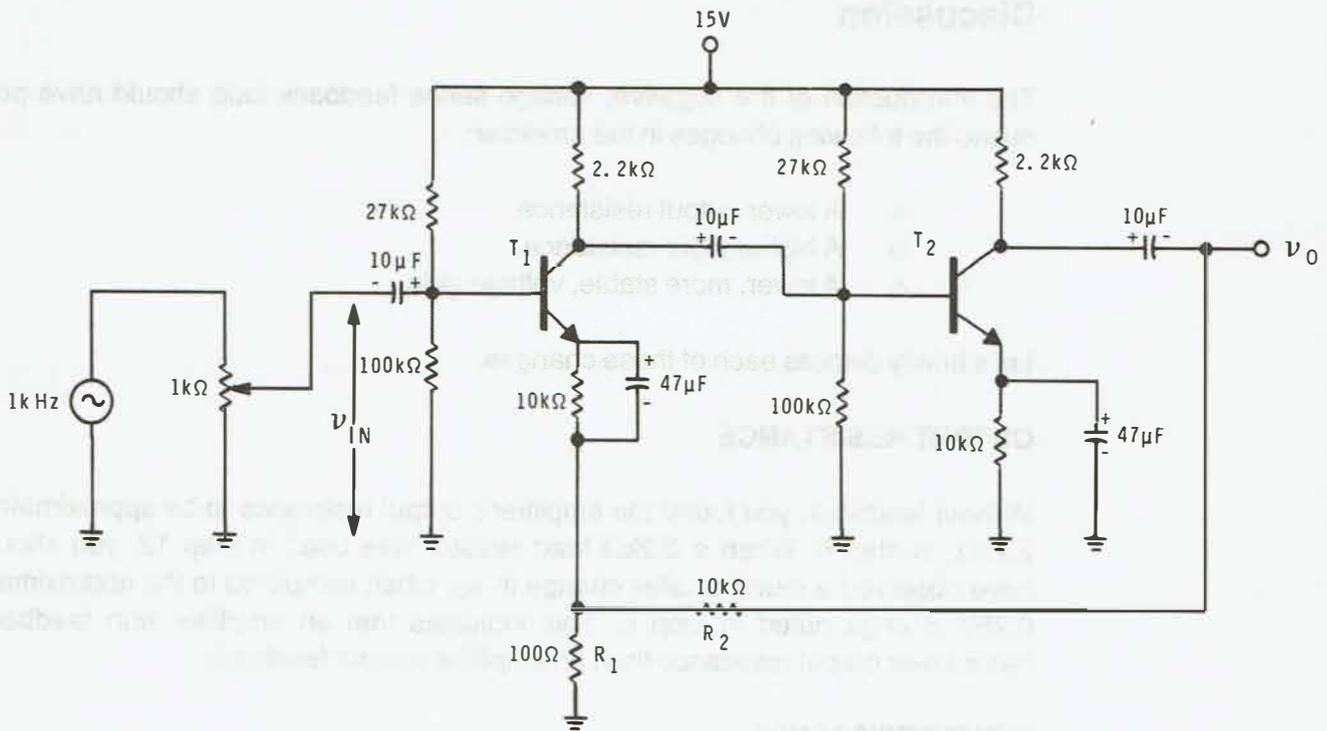

Figure E11-2
- Modify the circuit as shown in Figure E11-2. This modification introduces a negative voltage-series feedback path in the circuit.
In Figure E11-2, the voltage gain of the feedback network is: